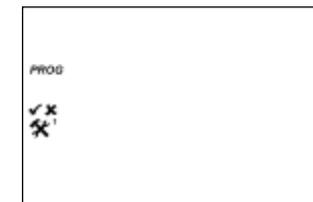

Fig. 37
- c. Press  repeatedly to move through INSTALLER PROGRAMMING MODE settings until SERVICE NOTIFICATION is displayed (immediately after date display) (Figs. 37 & 38).
Controller sets next SERVICE NOTIFICATION one year and three years from present service date and is no longer based on COMMISSIONING DATE. Figs. 37 & 38 show annual and triennial SERVICE NOTIFICATION with both  and .